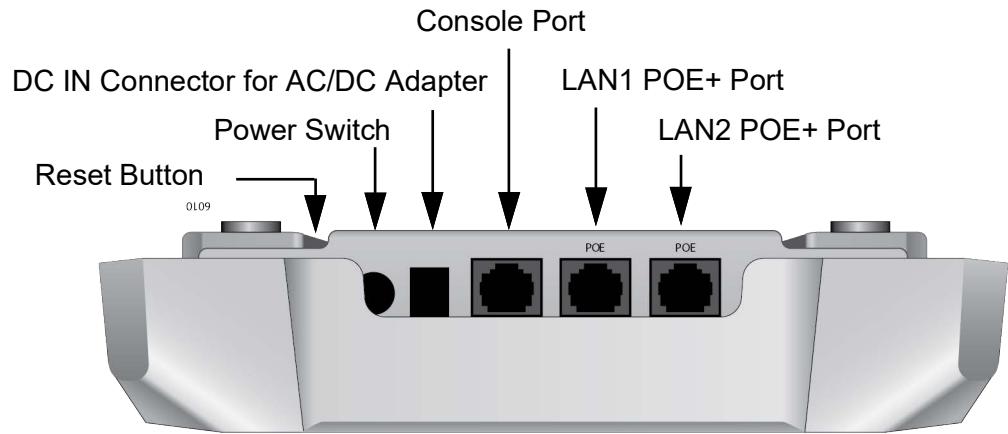

Figure 4. Back Edge View
The back edge view is illustrated in Figure 4.
- Power Switch** The Power Switch on the back panel in Figure 4 on page 13 turns On or OFF the access point when power is supplied to the access point only from the AC adapter, not from PoE LAN ports.
- Reset Button** The access point has a Reset button on the back edge in Figure 4 on page 13 for returning the parameter settings of the device to their default values. You might reset the access point if you want to discard its current configuration or if you forgot the manager password and so cannot manage the device.